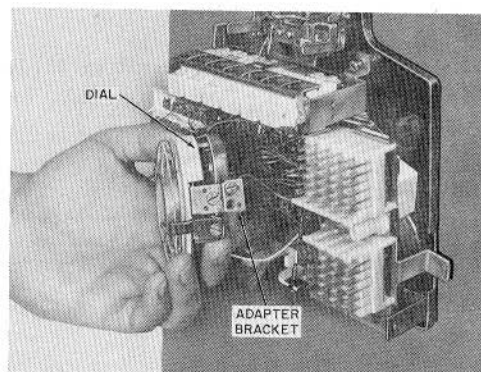

Fig. 12—Dial Adapter Bracket
3.12 3-Type (MD) Speakerphone: These sets are factory-wired for 3-type speakerphone except that the 851-type telephone set requires the replacement of the 8RA dial with an 8CA dial to provide a second set of off-normal contacts (P3 and P4 leads). When replacing the dial, the adapter brackets must be removed from the 8RA dial and added to the 8CA dial (Fig. 12). With both the
5.02 When dial replacement is necessary in the 851-type telephone set, use an 8RA dial for nonspeakerphone sets and an 8CA dial for sets with speakerphone. Remove dial by loosening adapter mounting screws and springing dial brackets sufficiently to release dial from locating pins. Transfer adapter brackets from dial being replaced to new dial (Fig. 12).